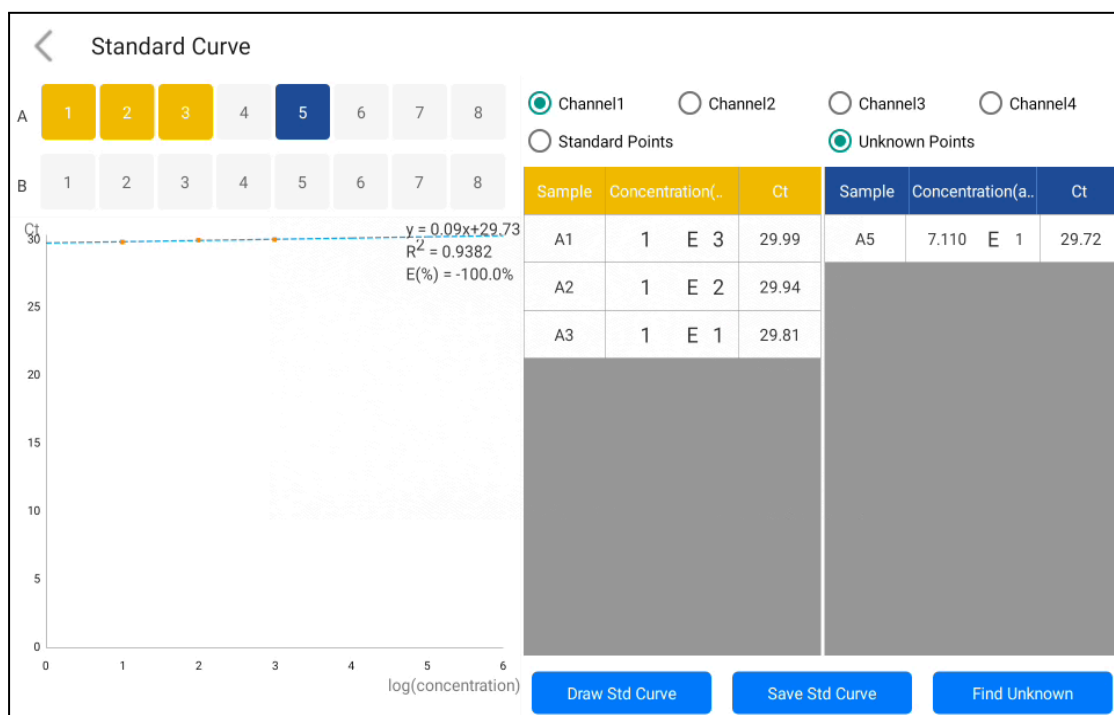

Figure 4.13. Calculating unknown concentration of unknown samples.
- Then select Unknown Points, click Find Unknown, and select Use Saved Standard Curve to calculate the concentration of the unknown sample based on the Ct value (Figure 4.13).